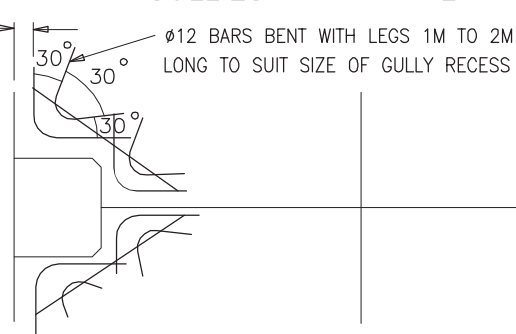

FIG. 1 JOINT WITHIN GULLY DIMENSION (PREFERRED POSITION)
5. NORMAL JOINT SPACINGS MAY BE ADJUSTED BY UP TO 1M SO THAT THE MANHOLE IS ASTRIDE OR ADJACENT TO THE JOINT AS SHOWN IN FIGS 1 & 2. IF THIS IS NOT POSSIBLE AN EXTRA JOINT SHALL BE FORMED IN THAT LANE AT THE MANHOLE POSITION AS IN FIG. 3, AND THAT JOINT SHALL BE A WARPING JOINT.